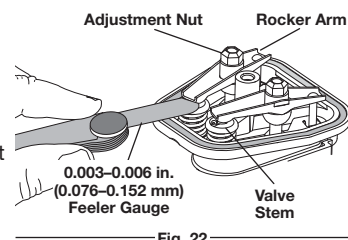

Fig. 22
6. Slide the feeler gauge between the rocker arm and the valve return spring. Measure the clearance between the valve stem and rocker arm (Fig. 22). Measure both the intake and exhaust valves.
The recommended clearance for both intake and exhaust is .003 – .006 in. (.076 – 0.152 mm). Use a standard automotive .005 in. (0.127 mm) feeler gauge. The feeler gauge should slide between the rocker arm and valve stem with a slight amount of resistance, without binding (Fig. 22.)
- a. Turn the adjusting nut using a 5/16 inch (8 mm) wrench or nut driver (Fig. 22).